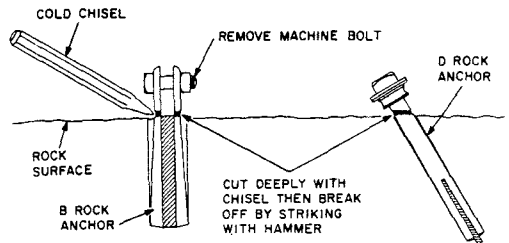

Fig. 4—Cutting Rock Anchors
3.04 To dispose of rock guy anchors where they project out from rock which is above the ground level, cut off flush with the rock's surface as illustrated in Fig. 4. Anchors of this type which are in rock below the ground level should be abandoned in place.